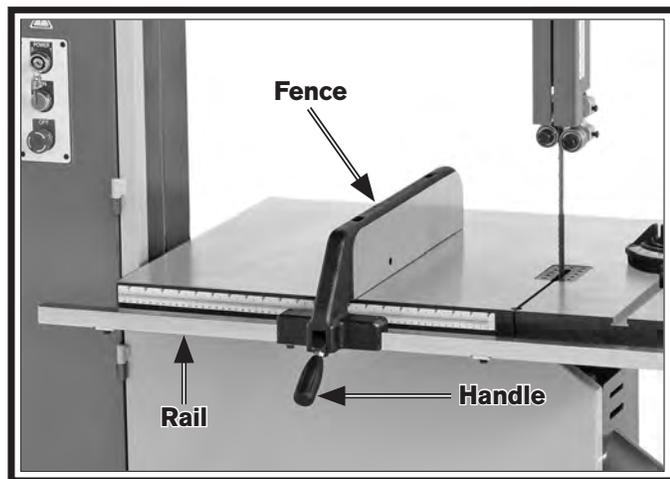

Figure 20. Fence installed on table.
- Pull fence handle up and place fence on rail (see Figure 20).
- Push fence handle down to lock fence in place (see Figure 20).